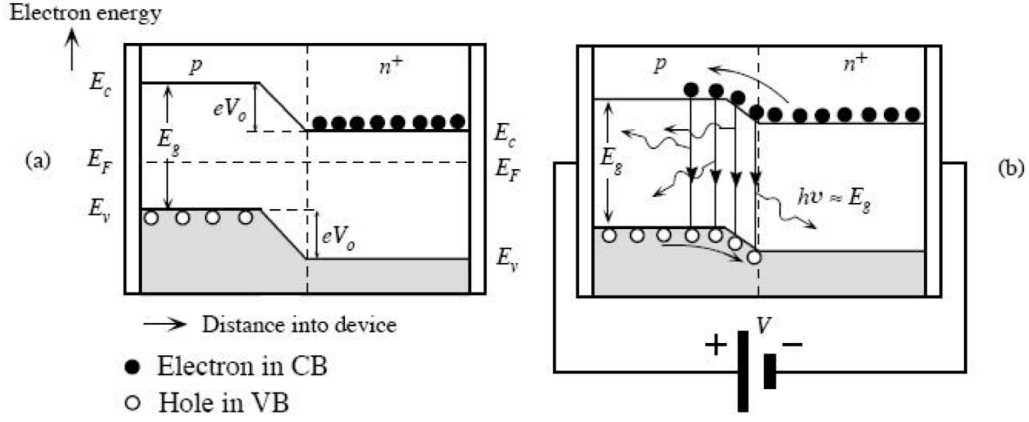

Figure 2: Basis of an LED. From https://www.ele.uri.edu/~vijay/ELE432_Report_LED.pdf.
Extending this idea, we now look closely at an LED, which is a PN junction optimized to emit light, as shown in Fig. 2.
In Fig. 2(a) the electrons (black dots) in the N material sit in their conduction band (CB). The holes (white dots) sit in their valence band (VB) on the other side of the barrier. The y -axis is now an energy axis, and note the VB energy is less than that of the CB. In (a) the shelf-height eV_0 , keeps the two charges separate across the barrier. However, in (b), when
We'll have more to say about this later, but for now suppose that for an LED, E_g is related to V_b , which is the threshold of the applied voltage at which the LED just begins to emit photons. The “b” stands for “barrier potential.” In Fig. 2, it's the applied voltage that lowers the barrier voltage just enough to allow electrons to flow into the P material and subsequently recombine with holes to emit photons.
In short, if you look back at Fig 2, it is not clear why the V_b , the voltage V_0 needs to be lowered by to commence photon emission, is not only related to the band-gap energy E_g , but *equal* to it. It is hard to ignore though, because this experiment does such a good job at delivering an experimental value for h . We'll discuss this all more as we go, but let's look at some data first.
If you reflect on the LED structure from the introduction, it is not clear why these experiments give a reasonable value for h . Why would the voltage needed to lower eV_0 in Fig. 2, as in $eV_0 \rightarrow e(V_0 - V_{app})$ be related to the band-gap energy E_g of the LED?
We claimed LED current starts to flow when an applied V lowers the shelf in Fig. 2 so that electrons may cross the barrier. We stated that if $V_0 \rightarrow V_0 - V_b$ with a sufficient V_b , current can flow and light will be emitted. So Eqn. 5, would become